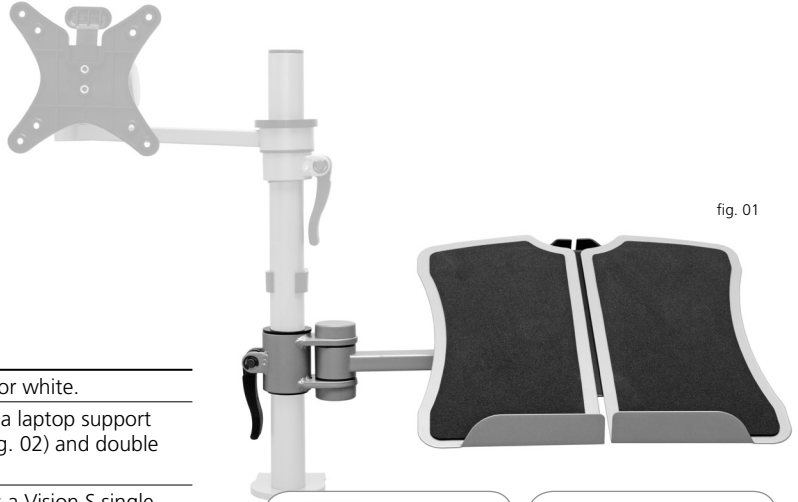

fig. 01
2. Vision S is available as a laptop support (fig. 01), single arm (fig. 02) and double arm (fig.03).